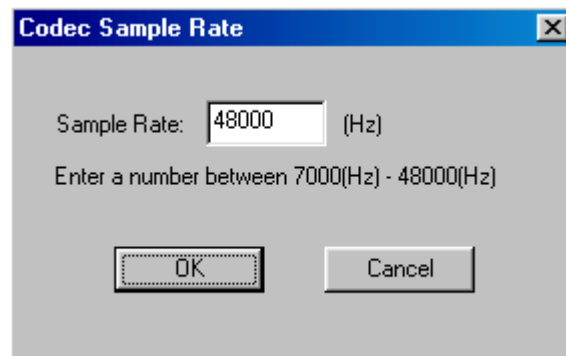

Figure 7-2 Sample Rate Dialog
**Sample Rate** — Opens the Sample Rate dialog (Figure 7-2 ) that lets you select a sample rate from 7000 to 48000 Hz.